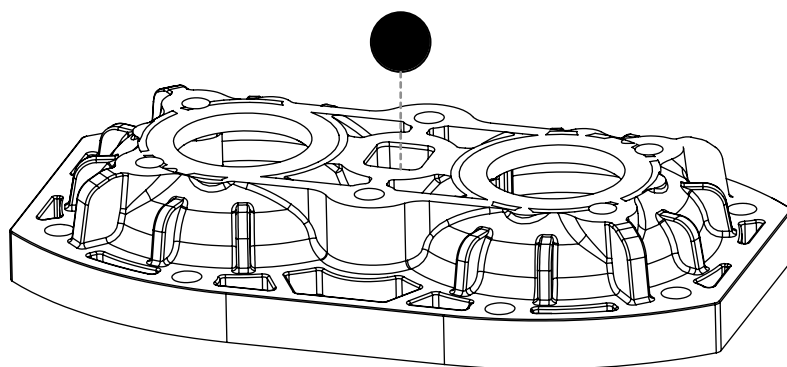

Figure 7.
9. Replace the nitrile ball from the service kit and replace into the 3 way valve orifice. (See Figure 7 on page 10)